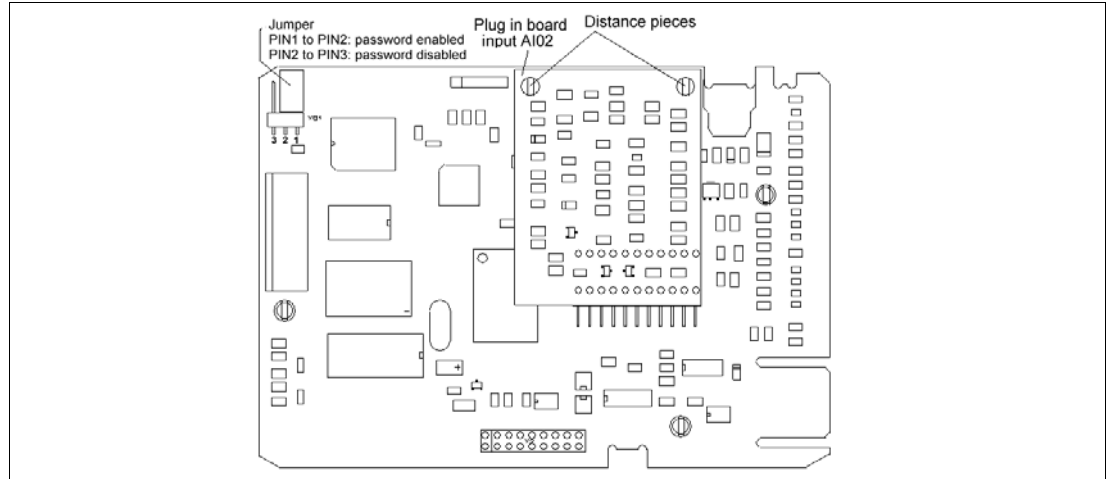

Fig.6-12 Main board with piggyback board AI02
3. Set the jumper accordingly (see Fig.6-12).